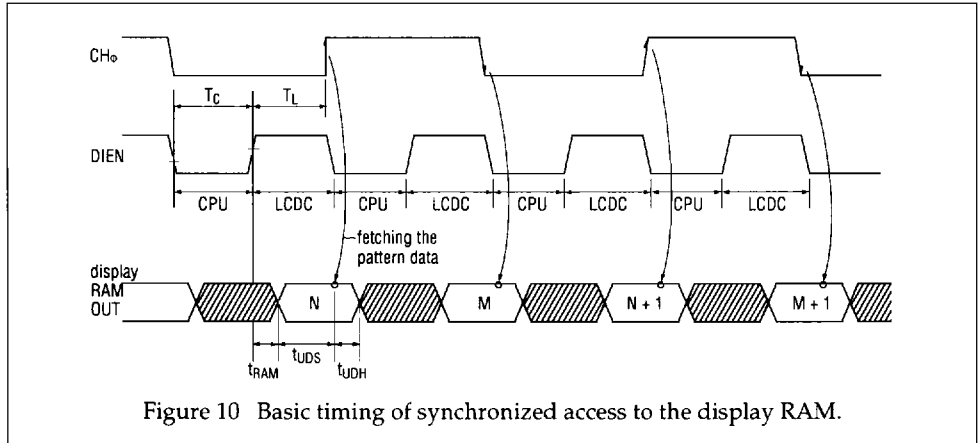

Figure 10 Basic timing of synchronized access to the display RAM.
In this method, however, some external circuits are necessary. The timing chart of this method is described in the figure 10 below.
- To perform synchronized access method, the timing between DIEN and CH_φ should be as described in Figure 10.